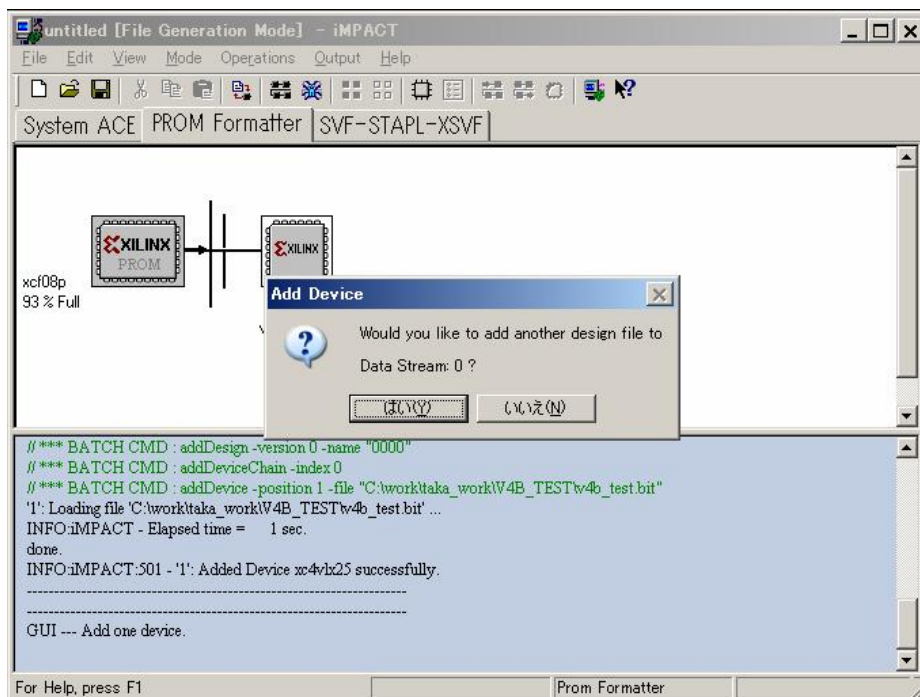

Figure.23
9) Only XC3S1600E exists as FPGA. So, click on the No button (Figure.23).